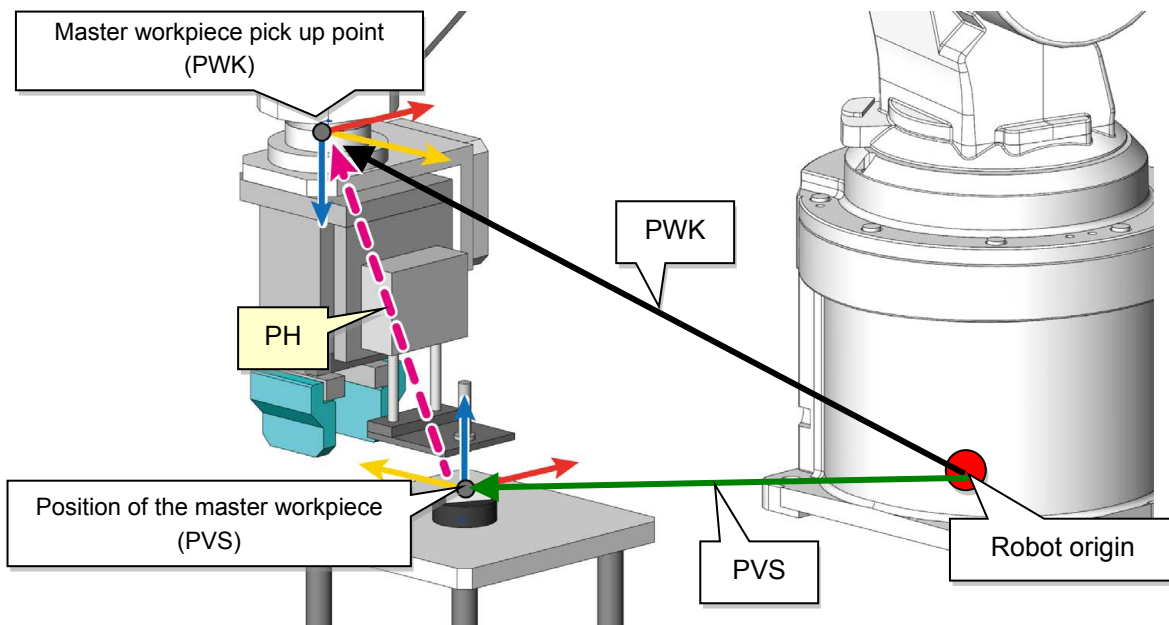

Fig. 3.17: Master workpiece pick up point (PWK) and master workpiece
- Workpiece pick up point: The pick up point taught to the robot. Each point is a position that is measured from the robot origin. (Fig. 3.17)